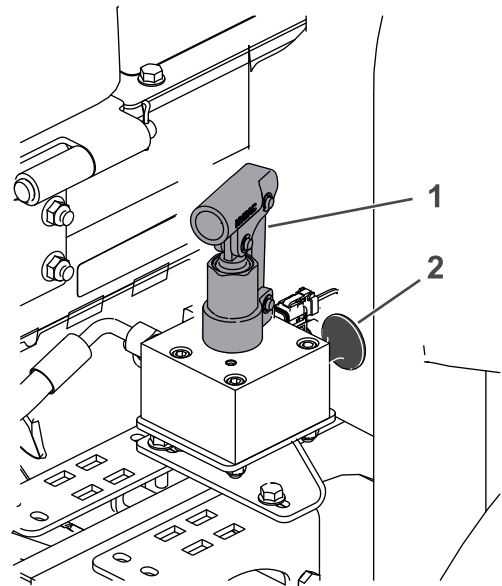

Figure 38
4. Locate the brake release manifold near the front right tire and behind the hydraulic tank (Figure 38).